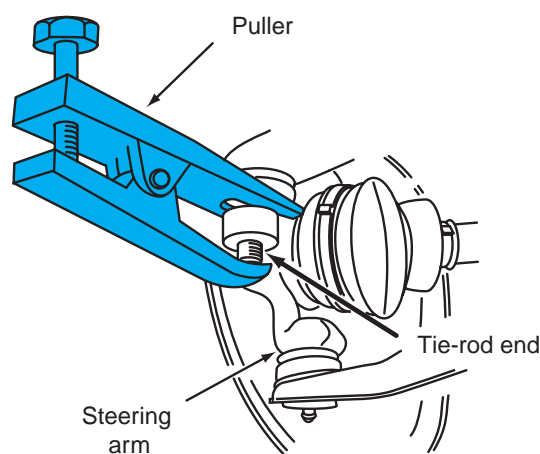

Figure 13-4 Removing a tie-rod end with a special tool.
4. Install the special tool on the tie-rod end, and with the tool arms parallel, tighten the screw on the tool to loosen the tie-rod end (Figure 13-4). Repeat the procedure on both tie-rod ends.